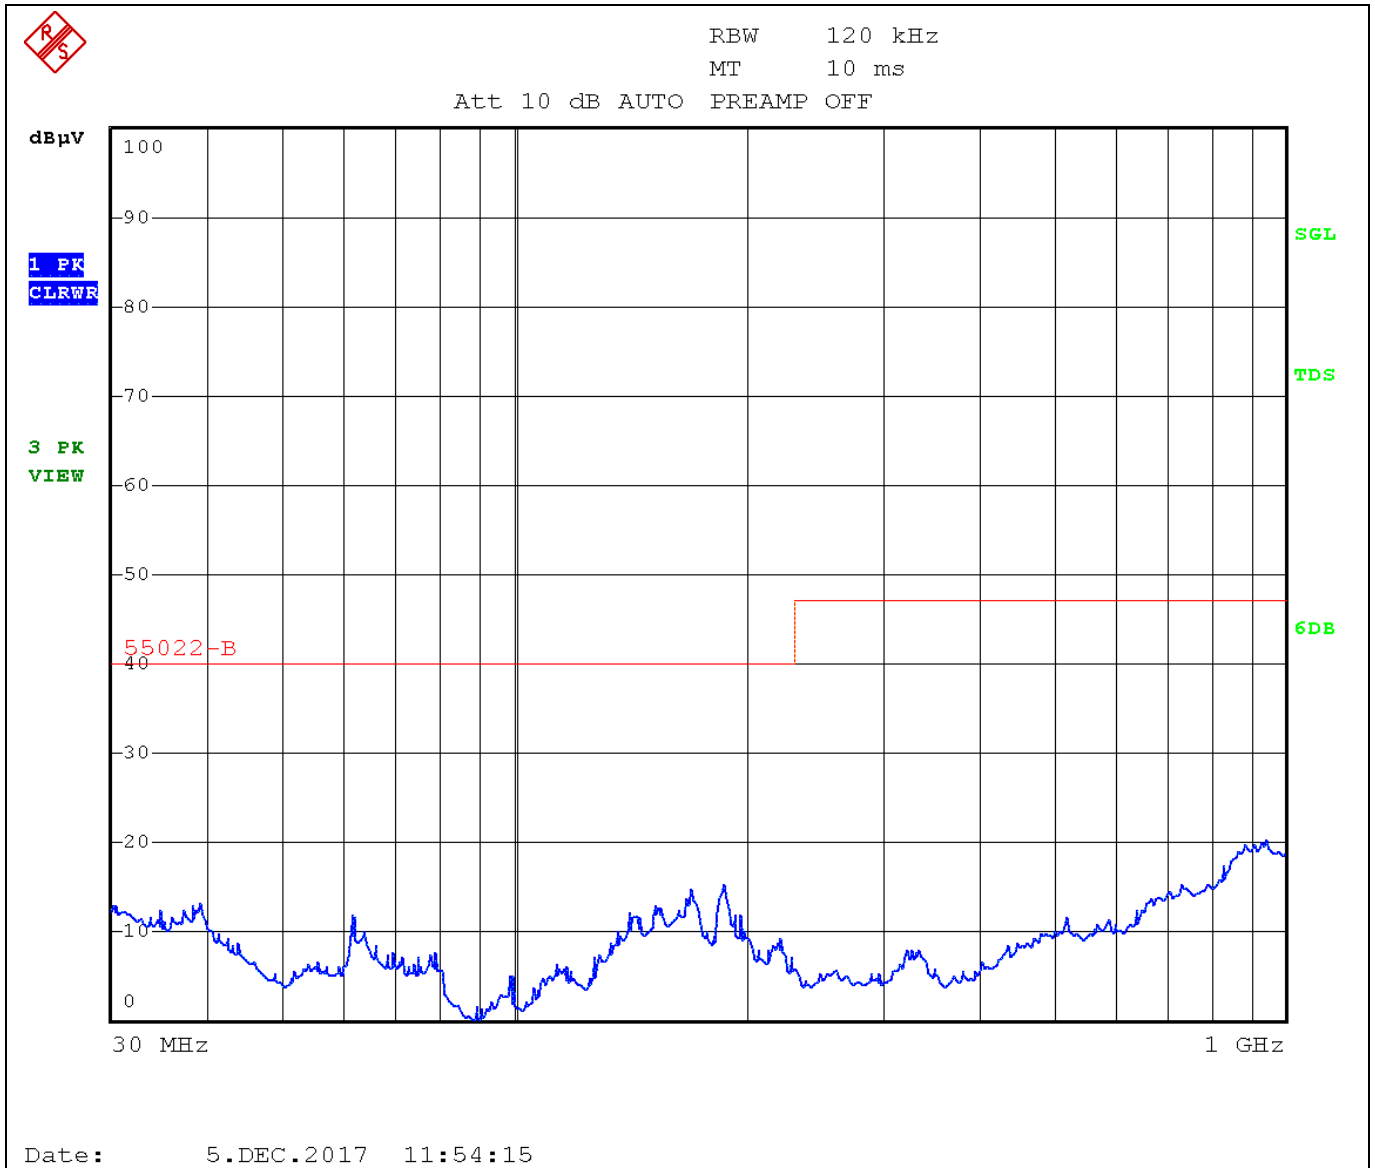

Figure 13 EMI radiated results for EVK with LC filter. Board Positioned towards antenna. Antenna position is Horizontal
- Board was turned 90° clockwise and the antenna was Vertical (Figure 13)